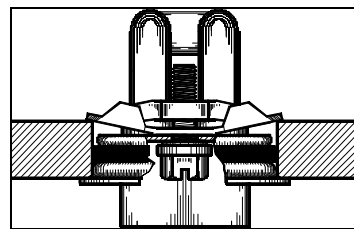

Figure 3 – Heater Tightened In Block
7. Tighten the locking screw clockwise to a **maximum torque of 2.26-2.82 Nm (20-25 in.- lbs.)**. (Fig.3)